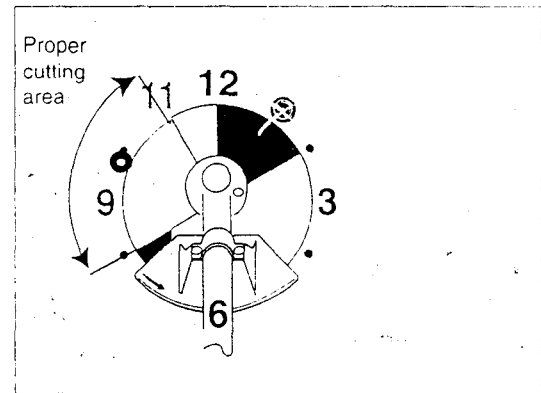

Fig. 37
- Easy cutting with almost no kickback is possible within a blade segment between 8 and 11 o'clock (Fig. 37).